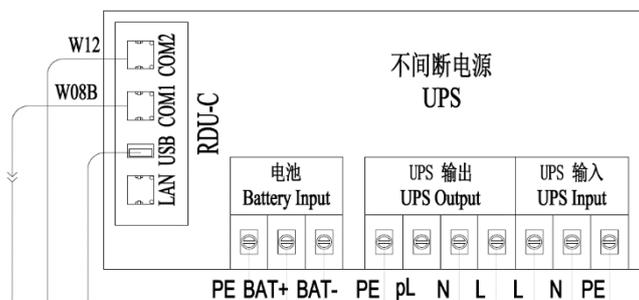

Figure 3-26 Cable connection of COM port of MSC intelligent monitoring card
1. Connect the two communication network cables reversed around the intelligent card slot on rear panel of the UPS to the corresponding ports of MSC intelligent monitoring card, as shown in Figure 3-26. Connect the cable W08B to the COM1 port of MSC-C card, and connect the cable W12 (COM2) to the COM2 port of MSC-C card.